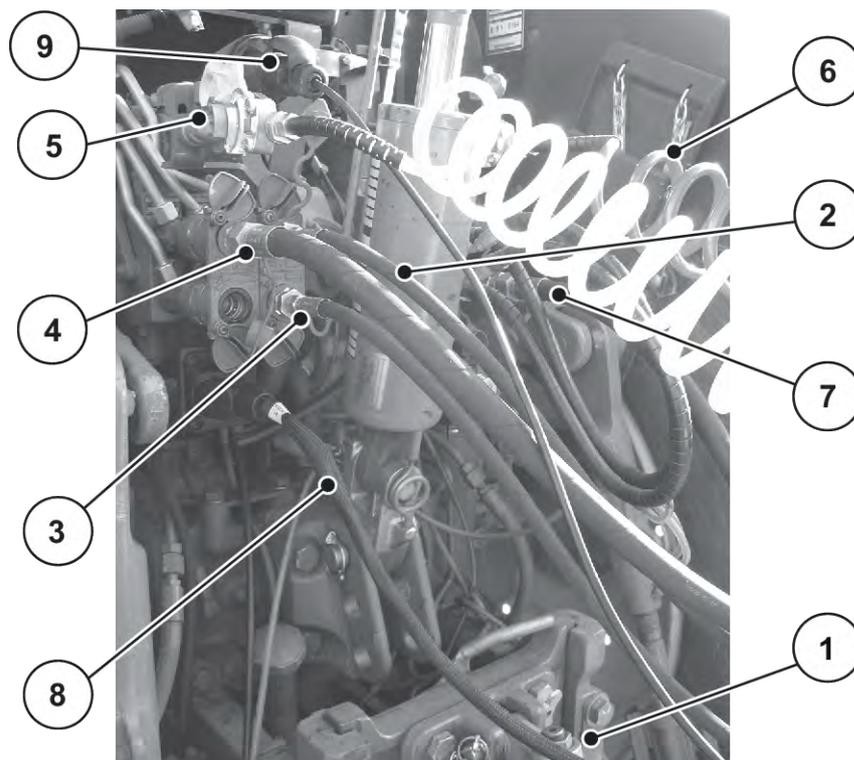

Fig. 26: Order of connecting the machine lines to the tractor
See Fig. 26
- ▶ Observe the connection order: See *Fig. 26 Order of connecting the machine lines to the tractor*
- ▷ See *Fig. 26 Order of connecting the machine lines to the tractor*.